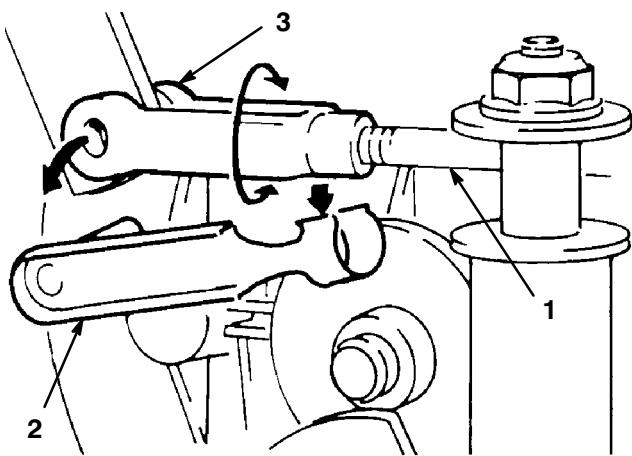

Figure 26
14. Locate deck engagement rod end on left side of transmission (Fig. 26). Remove clevis pin retainer and rotate clevis to lengthen or shorten rod until desired clearance between belt and pulley is attained.